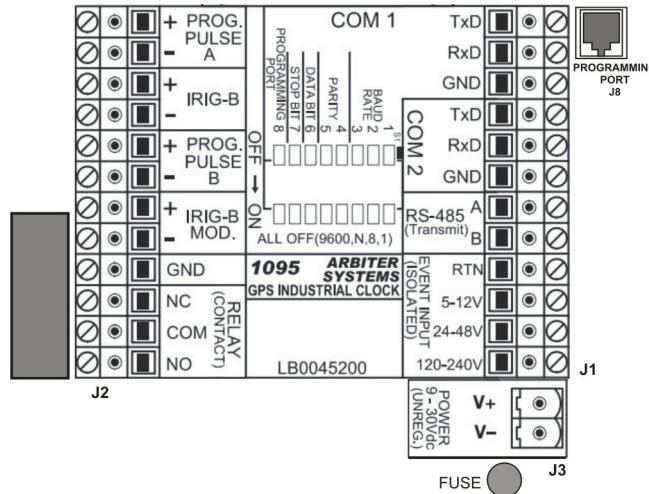

Figure 2.2: Connector Block Wiring
5. Connect the chosen wire pairs to the Connector Block and verify. See Figure 2.2.
Listed below are the meanings of the various connections on the connector block, and configuration methods. Use this section, including Figure 2.2, to identify and connect your chosen signal wires.
- **Event Input:** Three input ranges: 5 – 12 Vdc, 24 – 48 Vdc, 120 – 240 Vdc, and RTN. Inputs are isolated. See Figure 2.2.
- **IRIG-B MOD.:** Two terminals, marked “+” and “-”. 1 kHz sinewave at 4.5 Vpp, 3:1 AM modulation ratio. See Figure 2.2.
- **Relay Contacts:** Three terminals, marked NC, COM and NO (Normally Closed, Common, Normally Open). Conditions are when relay is de-energized (clock powered OFF). The information below gives the contact condition for two states: (1) Fault, or Power OFF, and (2) No Fault, or Power ON.
Connect the GND terminal on the left terminal block (see Figure 2.2) to one or more wires of the multi-conductor cabling that are connected to a station ground.
A user replaceable fuse pushes into the circuit board-mounted holder. Fuse by Little Fuse #370-1160, 250 V, 1.6 Amps. See Figure 2.2.
Caution: Verify polarity before connecting inlet power connections. While the Model 1095A/C is protected from reversed polarity of the inlet power, it will not operate if reversed. Note that the negative inlet lead is nearest the fuse. See Figure 2.2.
To verify communications, or to configure, use the Programming Port at J8 (RJ11 connector). See Figure 2.2 at the upper right. An accessory, Programming Cable Kit (part no. AS0067200), includes an RJ11 serial cable and DB9F to RJ11 adapter. see Section 1.3, to connect between a computer and the 1095A/C.